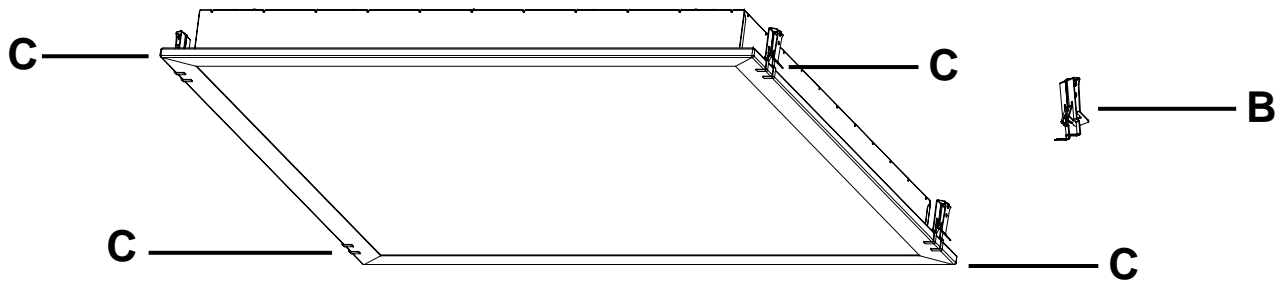

Fig.1
- Attach the earthquake clips (B) on the fixture body two clips on two sides (C). (Fig.1)